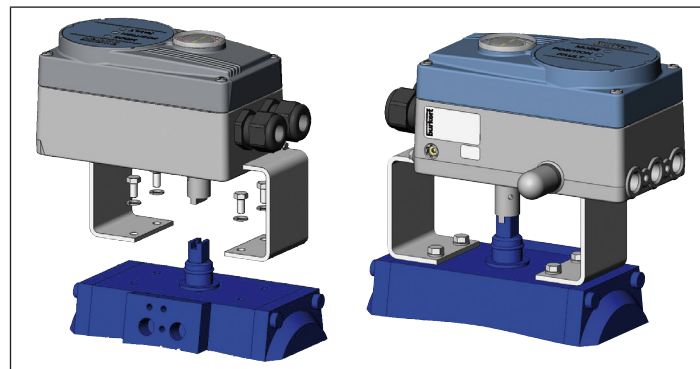

Fig. 15: Rotary actuator attachment
→ Place the positioner with the assembly bridge on the rotary actuator and attach it using four hexagon bolts ⑥ (see “Fig. 15”).